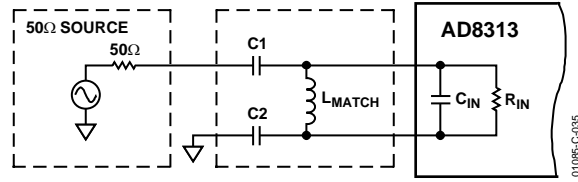
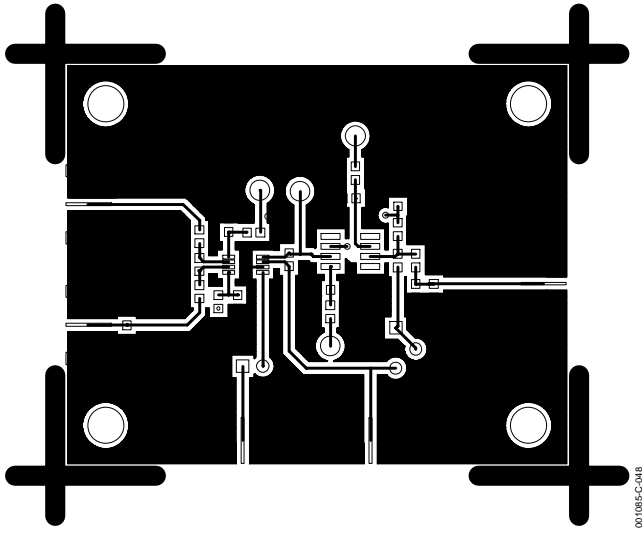
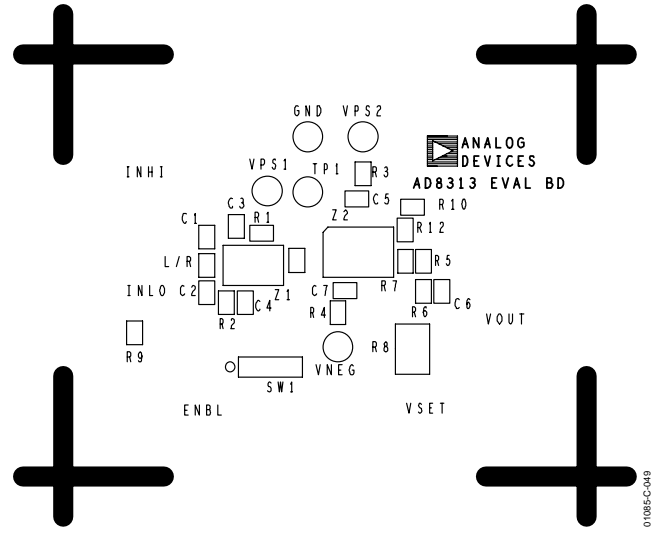
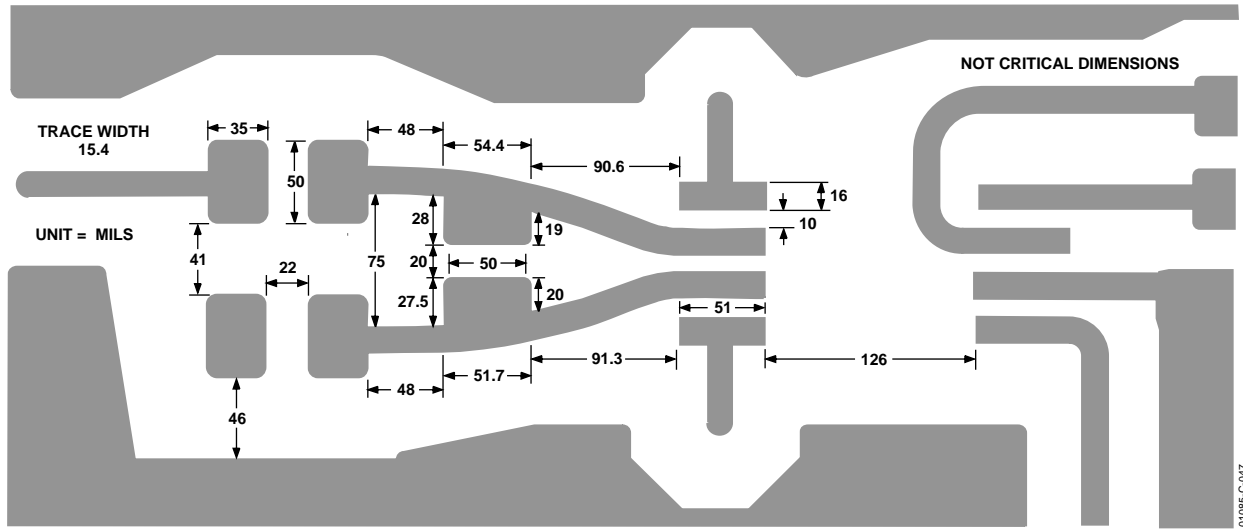

Figure 35. Narrow-Band Reactive Match
Figure 42. Layout of Signal Layer
Figure 43. Signal Layer Silkscreen
Figure 45. Detail of PCB Footprint for Package and Pads for Matching Network
A narrow-band LC match can be implemented either as a series-inductance/shunt-capacitance or as a series-capacitance/shunt-inductance. However, the concurrent requirement that the AD8313 inputs, INHI and INLO, be ac-coupled, makes a series-capacitance/shunt-inductance type match more appropriate (Figure 35).
Table 4 shows recommended values for the inductor and capacitors in Figure 35 for some selected RF frequencies in addition to the associated theoretical voltage gain. These values for a reactive match are optimal for the board layout detailed as Figure 45.
**Table 4. Recommended Values for C1, C2, and LMATCH in Figure 35**
This is a 4-layer board (top and bottom signal layers, ground, and power). The top layer silkscreen and layout are shown in Figure 42 and Figure 43. A detailed drawing of the recommended PCB footprint for the MSOP package and the pads for the matching components are shown in Figure 45.